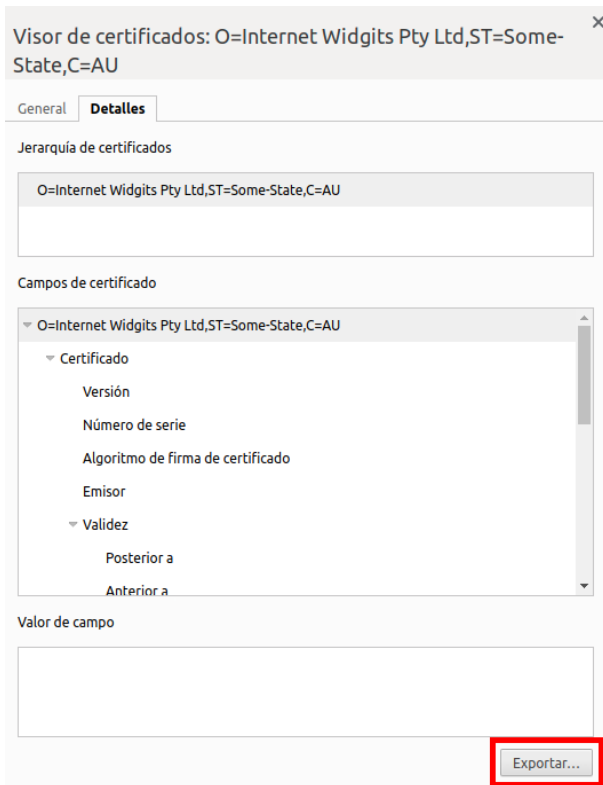

Fig. 21. 'Certificate viewer - Export' screen
- A new screen will appear with all of the information about the site certificate. Click on the 'Details' tab, followed by the 'Export ...' button that appears at the end of it (Fig. 21).